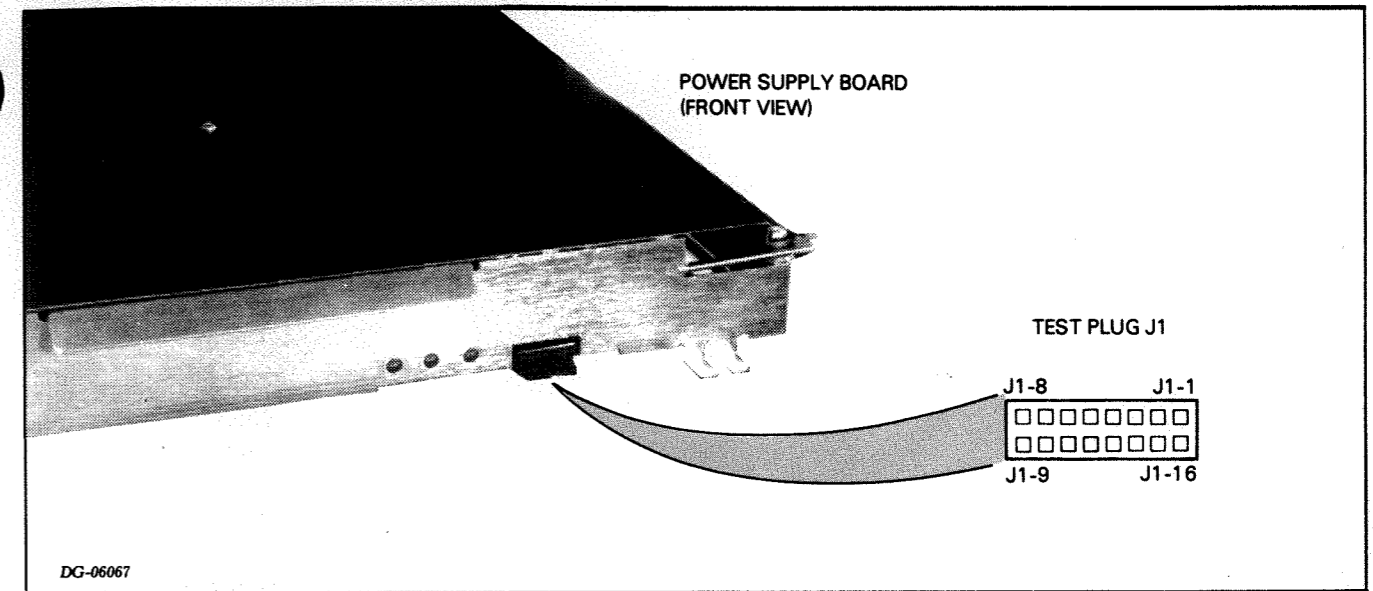

Figure 6.8 TEST PLUG
2. Check the +5V voltage at test plug J1-15 (see Figure 6.8). If +5V is between 5.10V and 5.20V, go to "Final Checkout"; otherwise, continue the checkout.
- If -11V is NOT between -11.0V and -12.5V (-30VNR not ok), check the **VREF** at test plug J1-14 (see Figure 6.8). If **VREF** is 5.8V, replace the VNR unit; otherwise, replace the power supply board.
- If -11V is between -11.0V and -12.5 (-30VNR ok), check the **HVS** voltage at test plug J1-4 (see Figure 6.8). If **HVS** is greater than 2.9V, replace the power supply board; otherwise, replace the VNR unit.
7. Recheck the +5V voltage at test plug J1-15 (see Figure 6.8). If it is between 5.10V and 5.20V, go to "Final Checkout"; otherwise, try replacing the internal cable (wiring harness). If this does not work, get help from DGC Field Service.
- Make sure the LOCK switch is in the UNLOCK position. If the fans still do not stop, check the PWR FAIL voltage at test plug J1-3 (see Figure 6.8).
- If PWR FAIL is less than 0.4V, check PON at test plug J1-11 (see Figure 6.8). If PON is less than 0.4V, replace the VNR unit; otherwise, replace the power supply board.